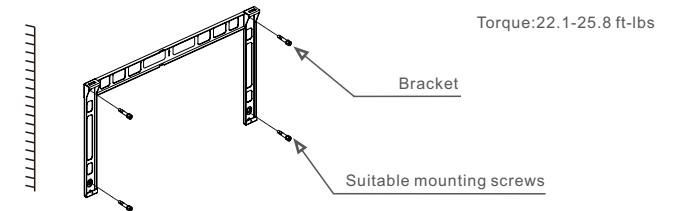
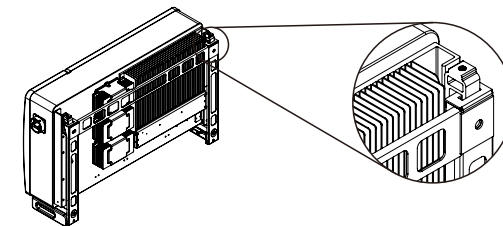

Figure 3.6 Inverter wall mounting
Figure 3.7 Install the inverter
Refer to figure 3.6 and figure 3.7 Inverter shall be mounted vertically.
1. Refer to Figure 3.6, drill holes for mounting screws based on the hole diameter of bracket using a precision drill keeping the drill perpendicular to the wall. Max depth is 90mm.
2. Make sure the bracket is horizontal. And the mounting holes (in Figure 3.6) are marked correctly. Drill the holes into wall at your marks.